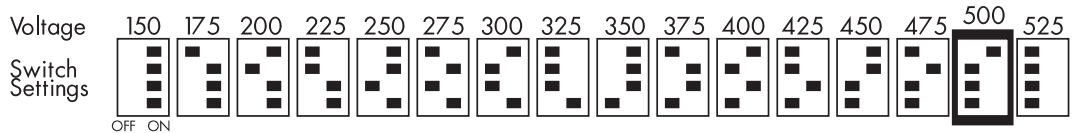

Figure 3.13 - Armature Voltage Switch Settings
1. Set the armature voltage to the motor's nameplate rating. Use the four-position switch on the right end of the calibration board to select the setting. The default setting is 500 volts. Use Figure 3.13 to select different voltages.